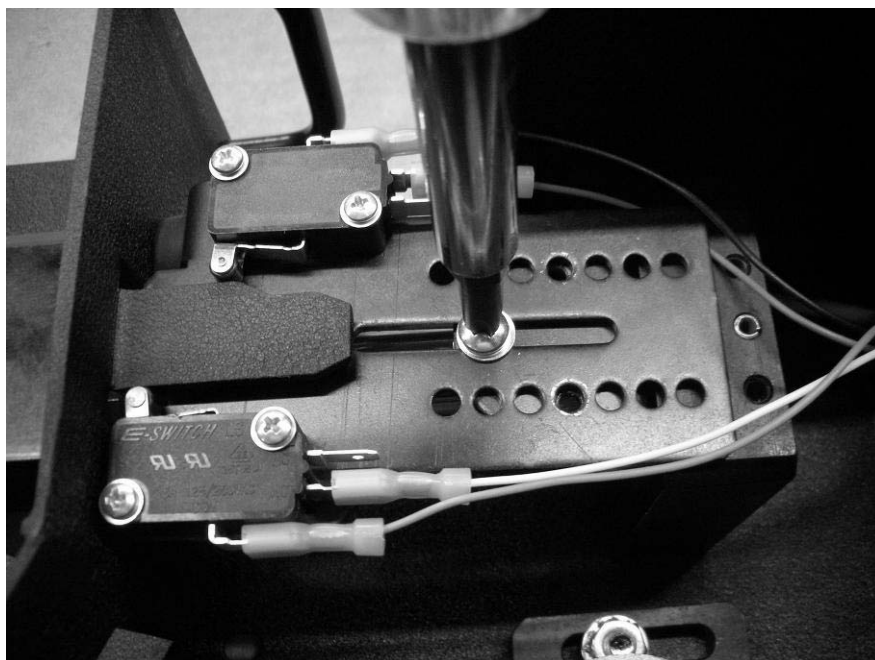

Figure 4-1
2. Remove two upper and lower screws on the limit switch bracket, and loosen the screw in the slot at the center. See Figure 4-1